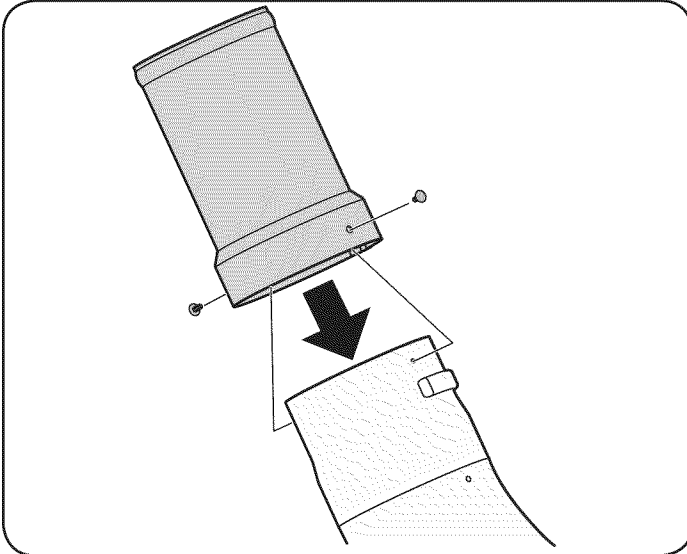

Figure 24
7. Install the chute adapter onto the chute elbow by lining up the tabs and sliding the adapter over the chute elbow, as in Fig. 24. Secure the chute adapter by installing two ratchet clips (726-3046),